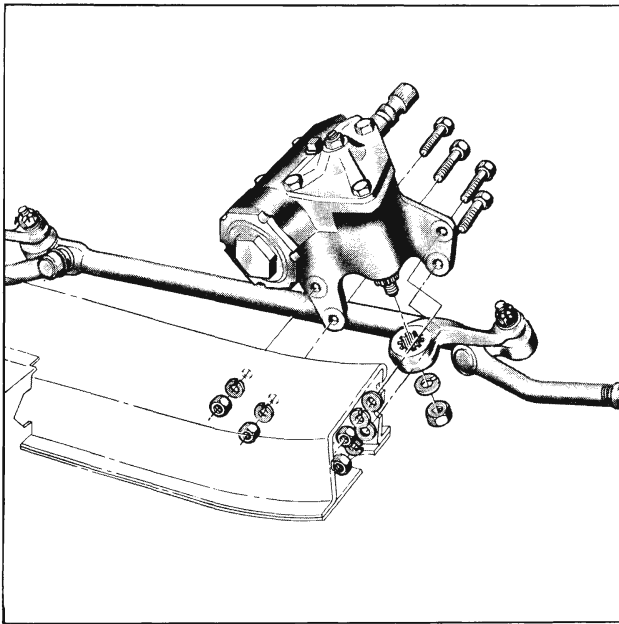

Fig. 4-207 Steering Gear Removal
9. Remove the cotter pin and nut from the relay rod ball stud and pull the relay rod off of the pitman arm. (Fig. 4-207)
10. Remove the 4 gear to front suspension cross bar attaching bolts and remove the gear from the car. (Fig. 4-207)
1. Position gear on front suspension cross bar and install the 4 attaching bolts and torque to 45-60 ft. lbs. (Fig. 4-207)